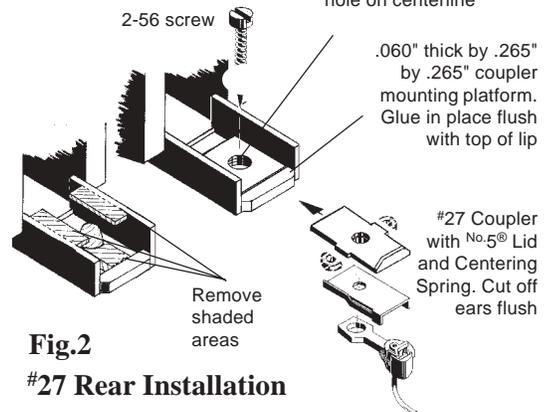

Fig.2
6. For the rear: Fit a .060" shim, .265" x .265", between the frame flush with the bottom front crossbar. Cement in place with a solvent cement. See Fig. 2.